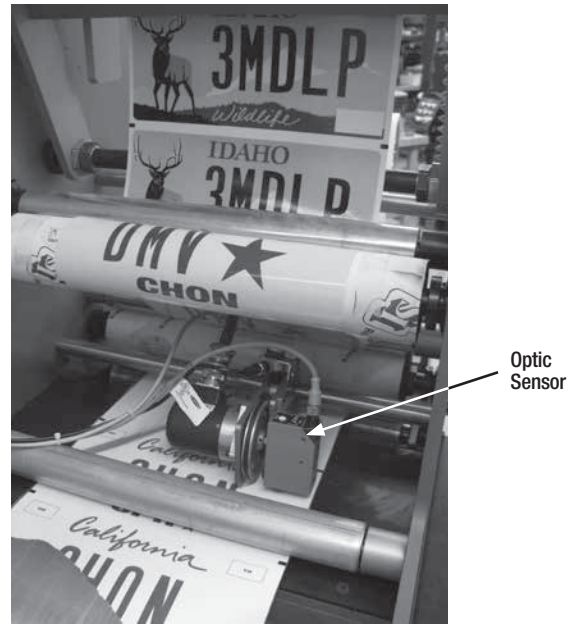

Figure 12
- m. For graphic sheeting, the optic sensor must line up with the registration mark. To move the sensor toward or away from the operator control panel, loosen the locking collar on the sensor mount, slide the sensor horizontally to the required position, and tighten the locking collar. With the encoder wheel on the web, adjust the sensor height to 3/8 inch above the laminated strip (Figure 12).